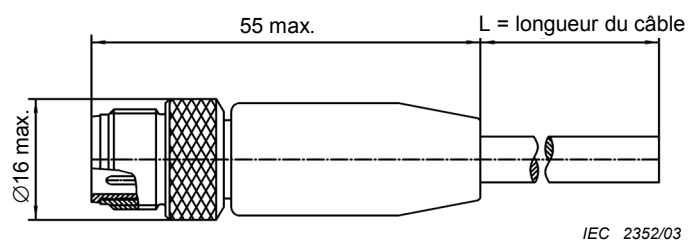

Figure 16 – Fiche non démontable, version à sortie droite, avec écrou de verrouillage, contacts mâles
2.2.2.5 Style LM*Dimensions in mm***Figure 16 – Non-rewireable connector, straight version, with locking nut, male contacts****2.2.2.6 Style LF***Dimensions in mm***Figure 17 – Non-rewireable connector, straight version, with locking nut, female contacts**